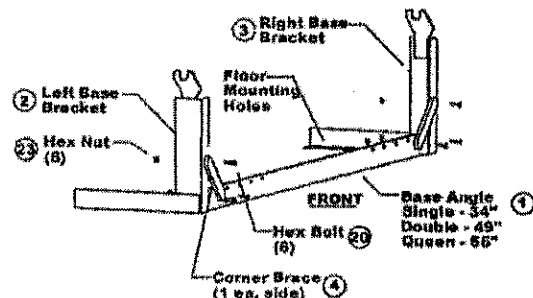

Figure 1. Diagram of Base Angle (Bottom Spring Bar) Frame
2. Lay base angle frame (bottom spring bar) on the floor, as shown in Figure 1.